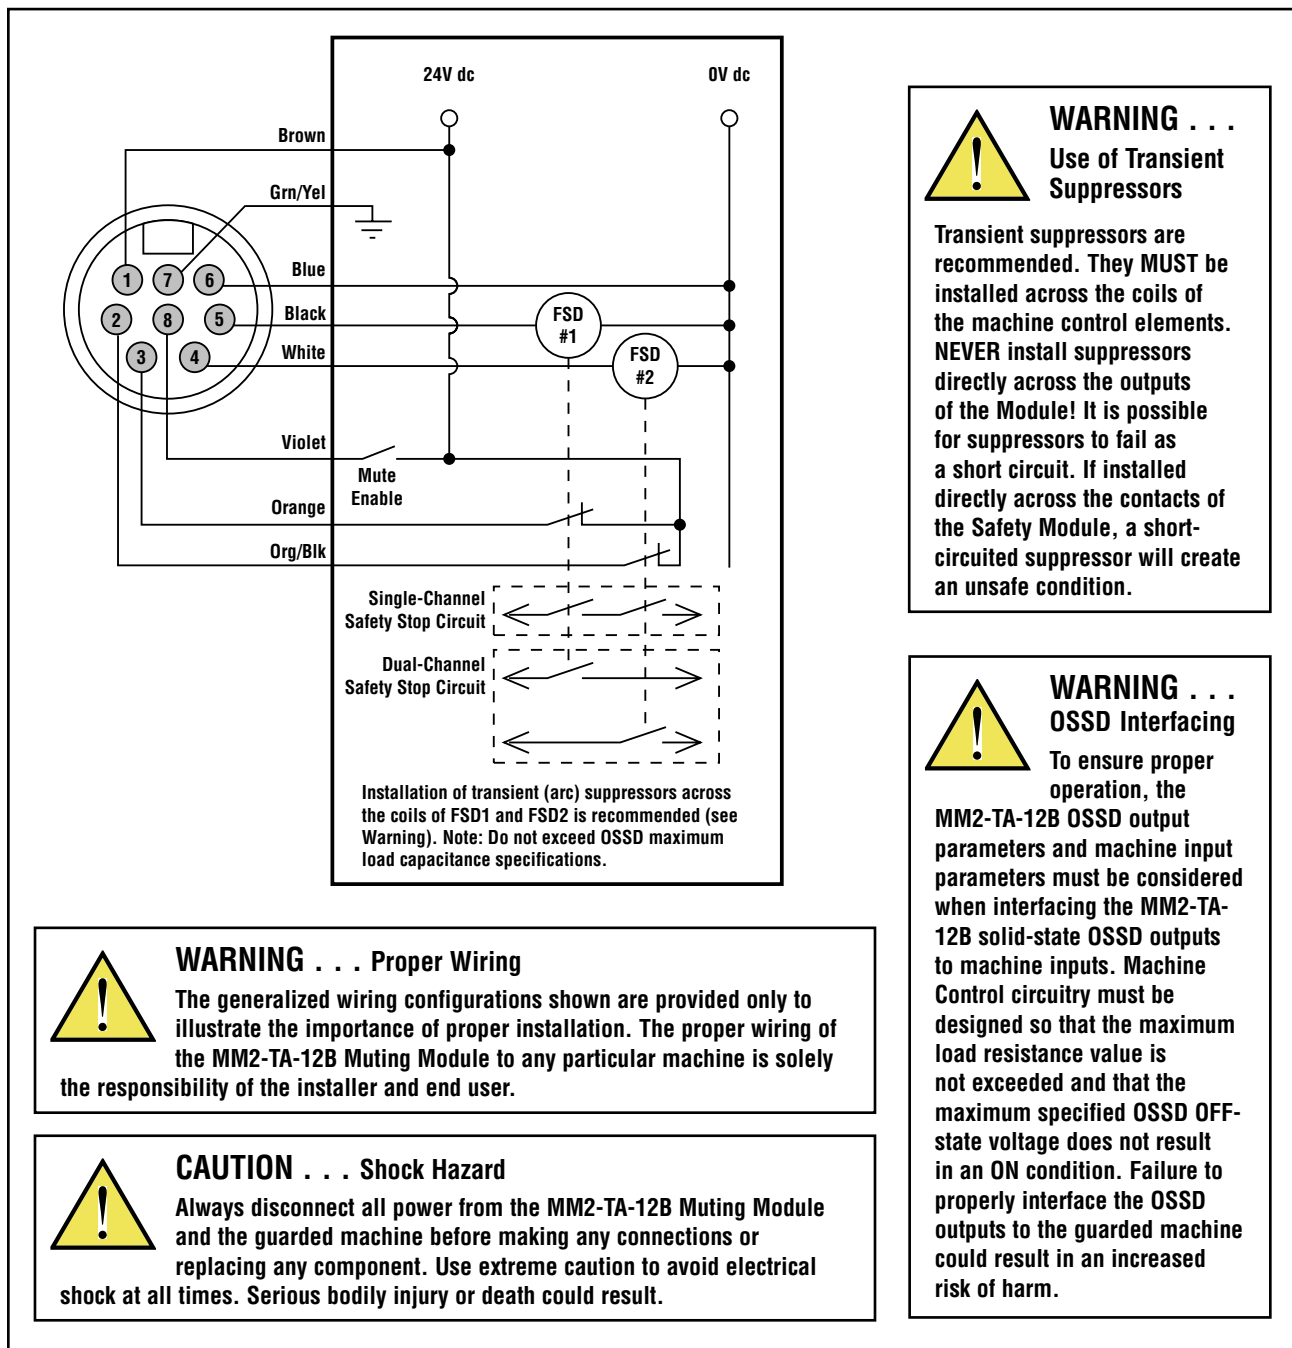

Figure 3-17. Generic hookup: FSD, two-channel EDM, Mute Enable
The generalized wiring configuration shown in Figures 3-17, 3-18, and 3-19 are provided only to illustrate the importance of proper installation. The proper wiring of the Safety system to any particular machine is the sole responsibility of the installer and end user.
It is strongly recommended that one normally closed, forced-guided, monitoring contact of each MPCE or external device be wired in order to monitor the state of the MPCEs (as shown in Figures 3-17 to 3-19). If this is done, proper operation of the MPCEs will be verified. MPCE monitoring contacts must be used in order to detect improper functioning of the MPCEs.
- **Two-Channel Monitoring** — SW4 Bank A&B = OFF, (see Figures 3-17, 3-18) SW5 Bank A&B = ON
After the initial checkout has been successfully completed, the EDM configuration that disabled the monitoring function must be properly reconfigured. The External Device Monitoring inputs then must be properly connected to the closed monitoring contacts of the MPCEs (see Section 1.10). Refer to the NOTICE Regarding MPCE Monitoring Hookup, at left, and Figures 3-17, 3-18 and 3-19.
Final switching devices (FSDs) typically accomplish this when the OSSDs go to an OFF state. See Figure 3-17.